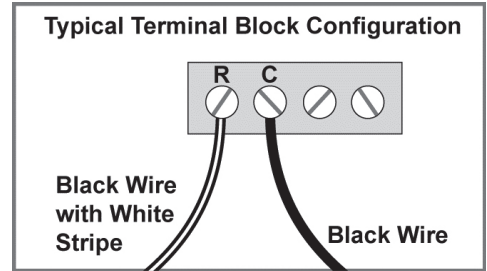

Fig. 1 HVAC Wiring
- B. Locate the 24 volt AC power source in your HVAC system then connect the leads of the power cord illustrated in the electrical wiring diagram. See diagram (Fig. 1)